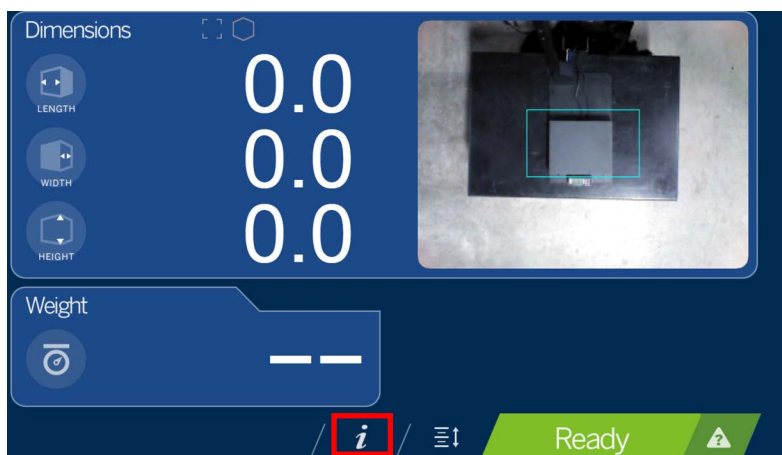

Figure 4-1. Select Device Information
1. Select the **Device Information** function key **i** located at the bottom of the screen (Figure 4-1).